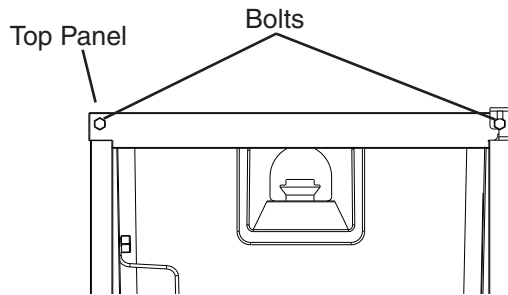

Fig. 11
- a) Contact your local distributor to purchase Hoshizaki Kit HS-0229. The kit contains "hinge (A)-left."
- b) Remove the 2 bolts securing the top panel, then lift it off. See Fig. 11.